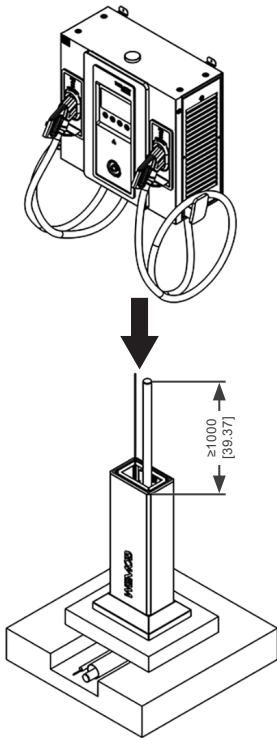

Figure 4.1: Example of WEMOB-STATION (60/80 kW) installation on the totem – mm
Once the totem has been securely fixed to the concrete base, the charging station must be installed. This should be done using the four (04) mounting points on the unit, with four (04) M6 hex head bolts. The recommended tightening torque is 10 Nm, ensuring a secure attachment for both the charging station and the operator, as shown in Figure 4.1.